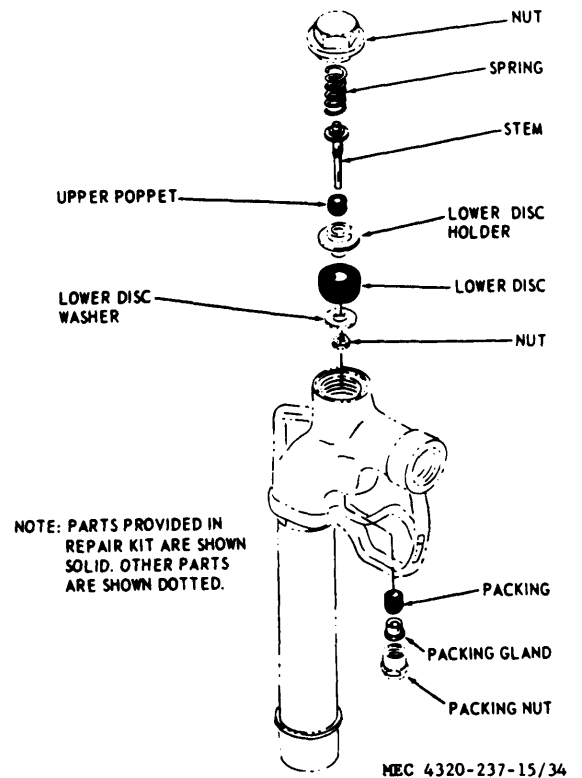

Figure 34. Nozzle, disassembly and reassembly.
b. *Disassembly.* Refer to figure 34 and disassemble the nozzle.
- (1) Discard the removed parts for which there are replacement in the nozzle repair kit.
- (2) Clean all remaining parts with an approved cleaning solvent; dry thoroughly.
- (3) Inspect the nozzle parts for cracks, distortion, worn or damaged threads, and other damage; replace damaged parts. Make sure the ground cable and pinch-type ground connector are attached and in good condition.
d. *Reassembly.* Refer to figure 34 and reassemble the nozzle.